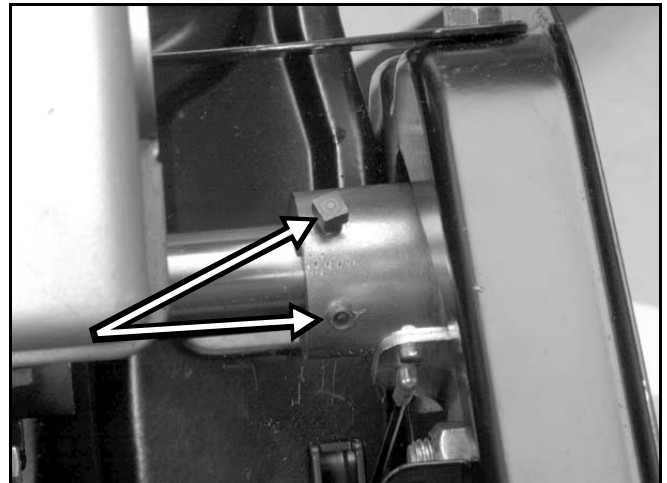

Figure 45
7. To remove the engine pulley, loosen the setscrews and pull the pulley straight off (Figure 45).